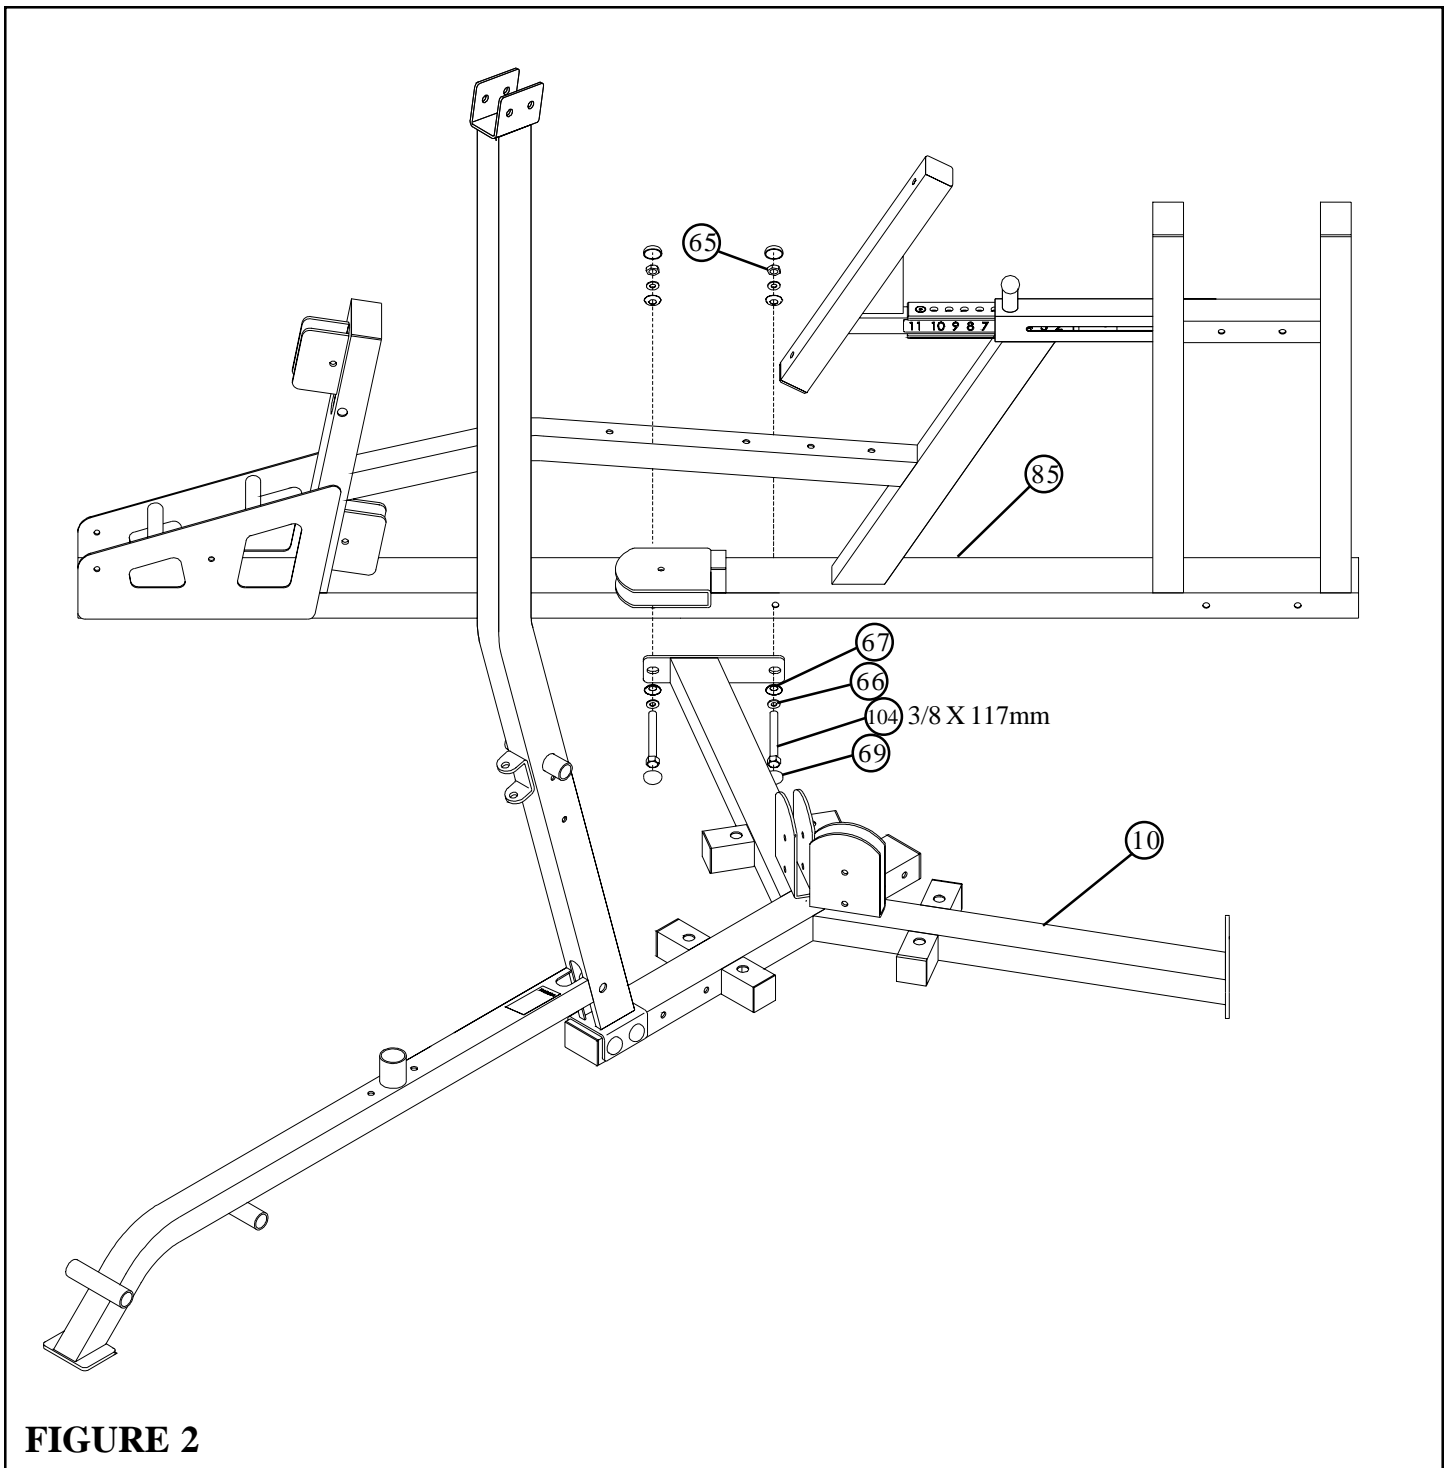

**FIGURE 1**
- **LOOSELY** assemble the LAT/LOW FRAME (14) to the TOWER BASE (10) using four RH CAPS (69), two 3/8 X 97mm BOLTS (59), four 3/8" SAE WASHERS (66), four 3/8" RH WASHERS (67) and two 3/8" LOW HEIGHT LOCK NUTS (65) as shown in FIGURE 1.